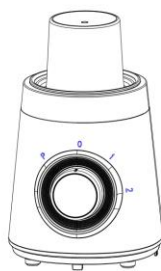

Fig. 4
3. Place the grinder attachment on the motor unit, Turn the bowl clockwise until a click will be heard when locked into position properly. Please see Fig. 4